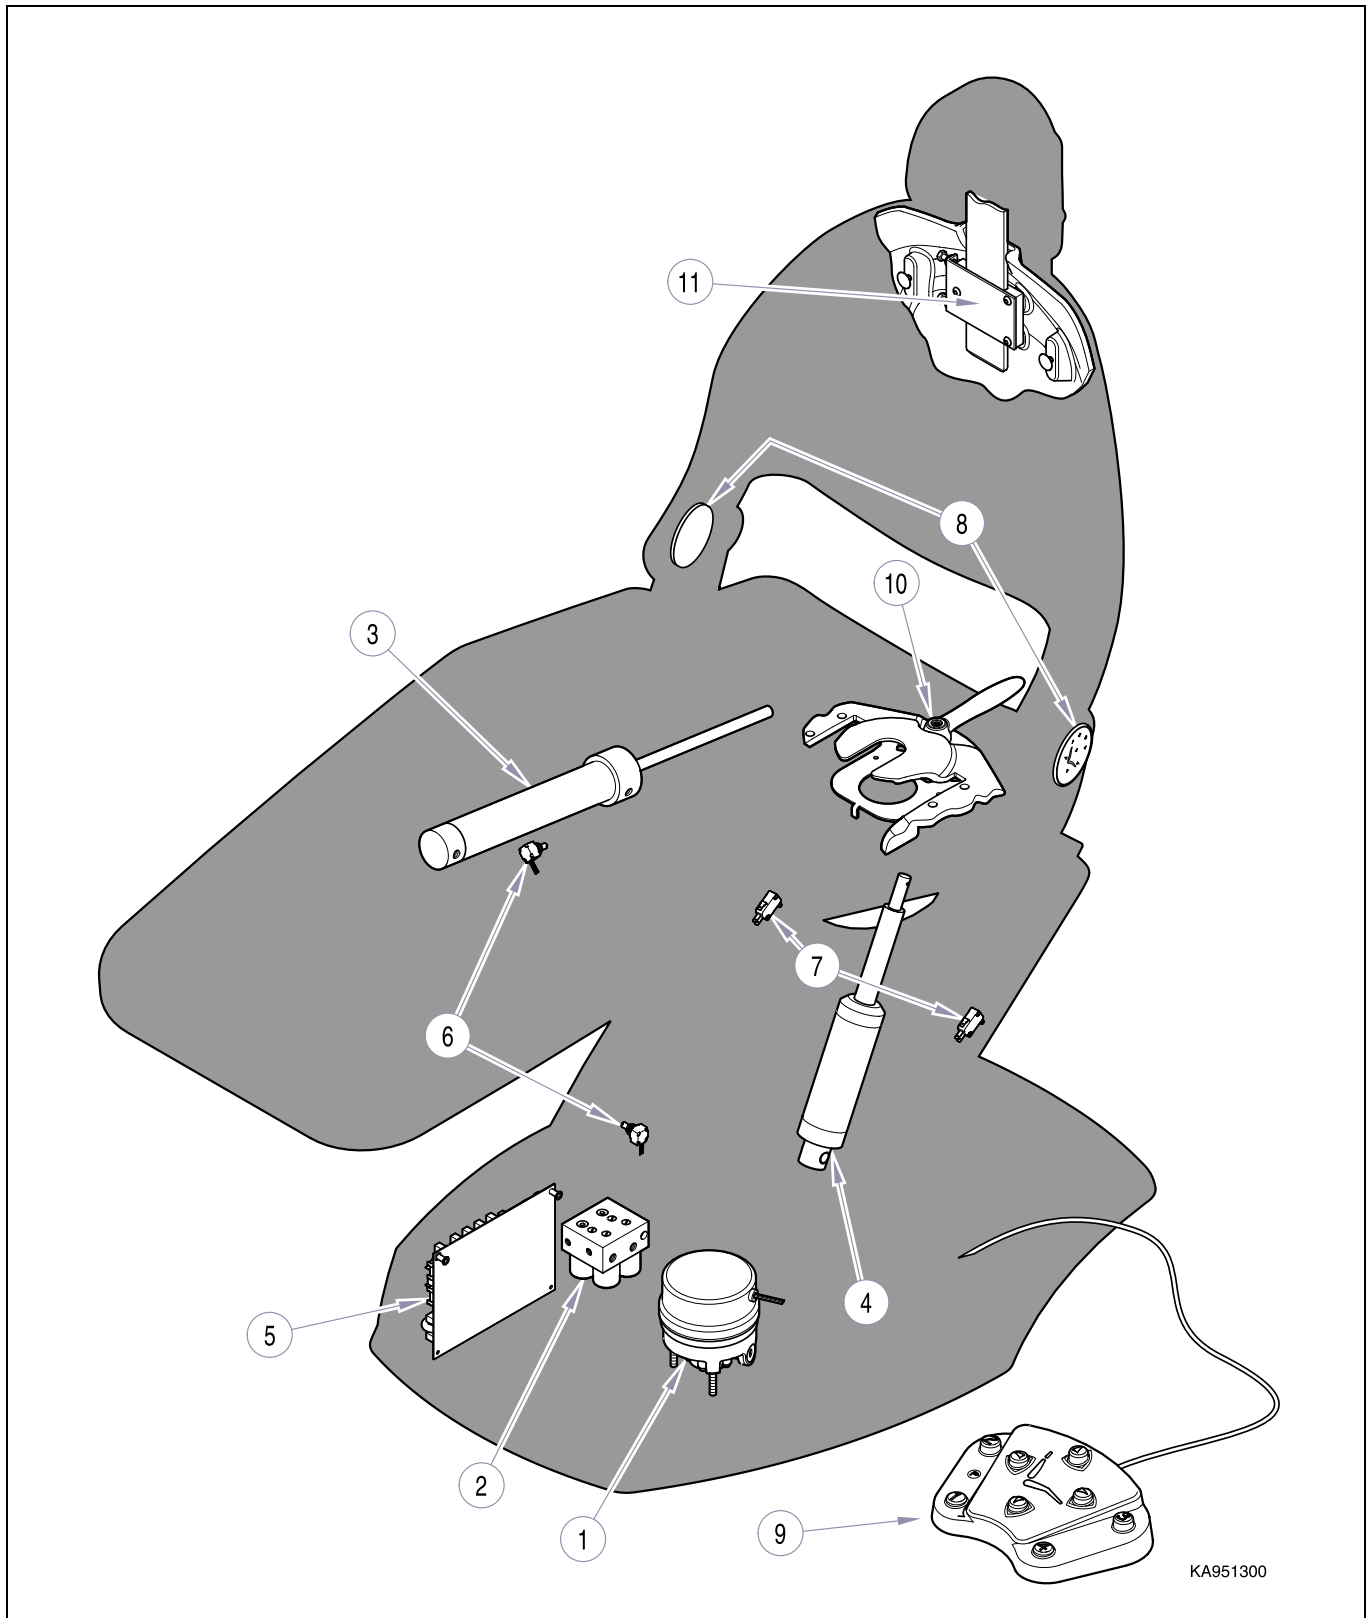

Figure 1-1. Component Location
1.3 Description Of Midmark Dental Chair**A. General Description (See Figure 1-1).**
B. Major Serviceable Components (See Figure 1-1).**Hydraulic Motor Pump (1, Figure 1-1)**
Solenoid Valve Unit (2, Figure 1-1)
Back Hydraulic Cylinder (3, Figure 1-1)
Base Hydraulic Cylinder (4, Figure 1-1)
P.C. Board w/ Fuses (5, Figure 1-1)
Back and Base Positioning Potentiometers (6, Figure 1-1)
Safety Bail Limit Switches (7, Figure 1-1)
Membrane Touch Pads (8, Figure 1-1)
Foot Switch (9, Figure 1-1)
Rotational Seat Lock (10, Figure 1-1)
Headrest Locking Assembly (11, Figure 1-1)